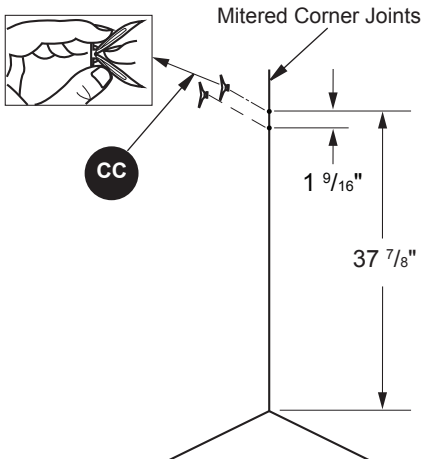

Figure 41
13. Drill two holes (5/16") in the corner where the fireplace is to be displayed. Drill the first hole 37 7/8" from the ground up. Drill the second hole 1 9/16" from the first hole as shown in Figure 41. Place 2) Wall Anchors (CC) into holes by pinching the anchor tabs together as shown in Figure 41.